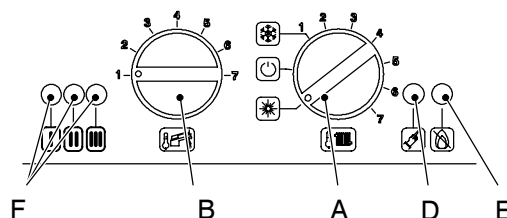

Fig. 15
- 4 Turn the boiler ON positioning the function selector knob A as indicated in Fig. 15 and ensure that the timer selector switch and room thermostat, if fitted, are set to "heat demand". Run the boiler in c.h. mode (do not open any d.h.w. tap).